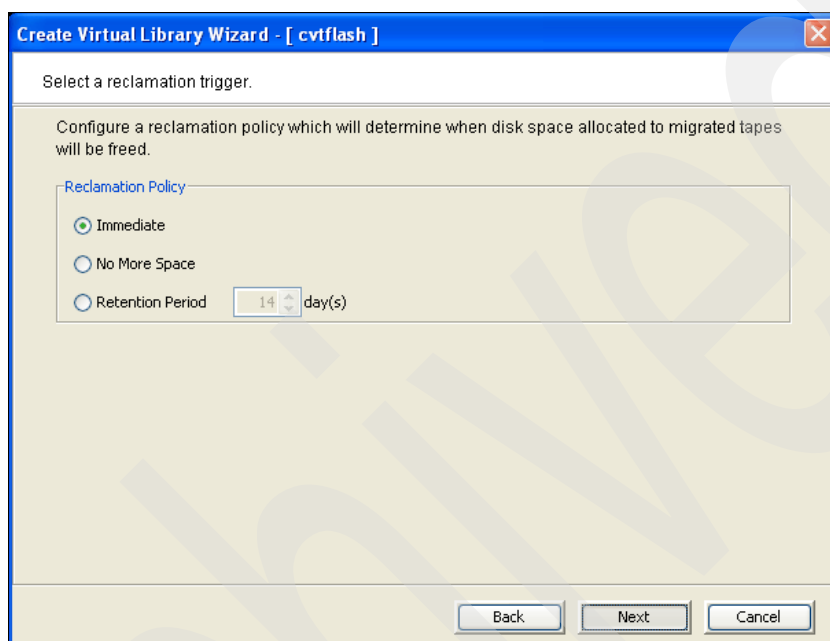

Figure 6-94 Cached virtual library creation: Specify reclamation trigger
8. The next window allows you to specify when the cache used by the virtual volume will be reclaimed. Select **Immediate** on the window shown in Figure 6-94 to have the cache reclaimed immediately after a successful migration. Click **Next**.